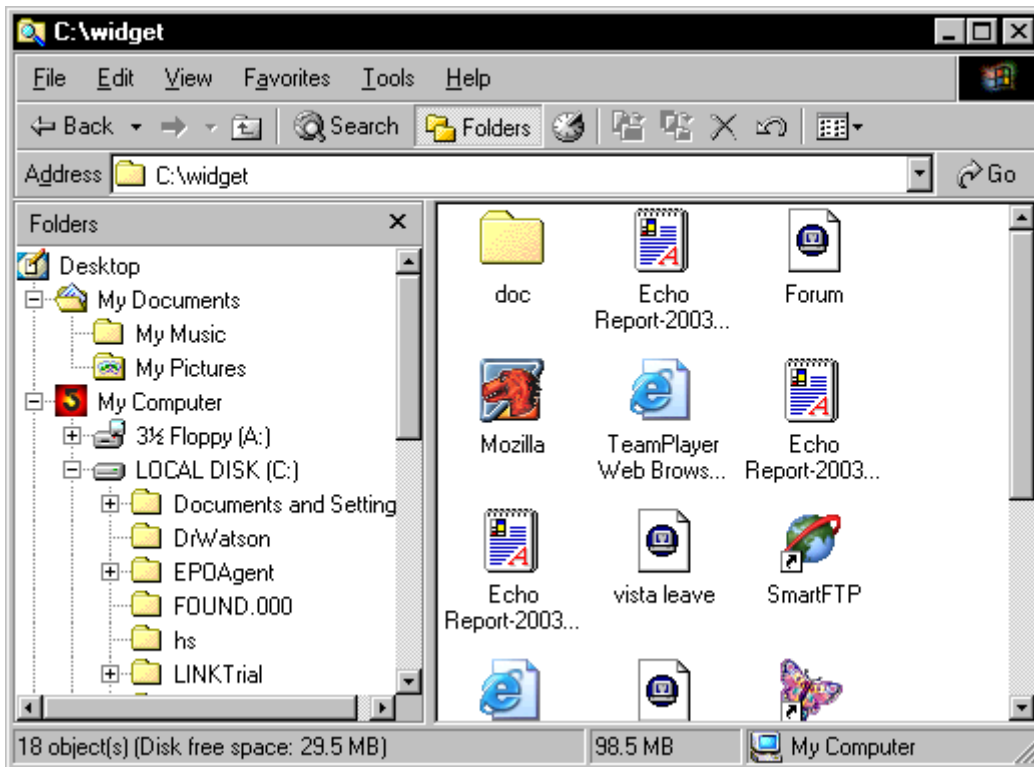

Figure 12-1
1. Using Windows Explorer, go to the parent directory of the folder that contains the folder to be shared (doc folder) (Figure 12-1).